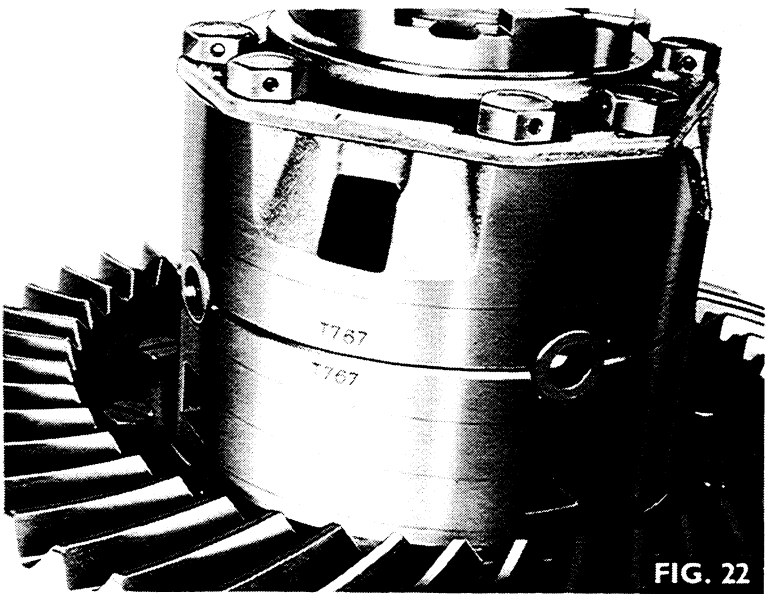

FIG. 22
2. Fig. 22. Refit the R.H. differential case (37) with the markings aligned, as shown, then fit the differential lock coupler (38).
4. Drive the bearing cone (39) on to the coupler cap using special tool MF 257.